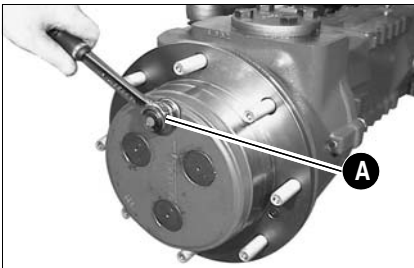

Fig. 31: Oil filler and inspection plug on planetary drive
- Place plug A in the position shown in fig. 31 (plug must be at the top)